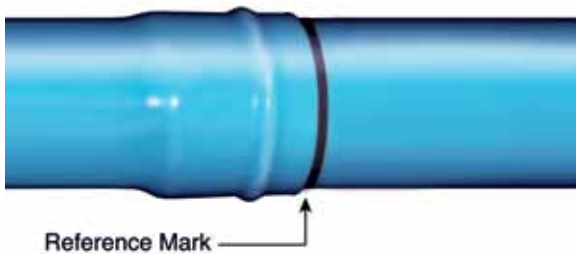

Figure 10
4. Insert the beveled spigot end into the bell so that it is in contact with the gasket. Hold the pipe lengths being joined close to the ground (as shown below) and keep the lengths in proper alignment. Brace the bell, as shown in Figure 9, while the spigot end is inserted under the gasket, so that previously completed joints in the line will not be closed up or over-assembled. Push the spigot end in until the reference mark on the spigot end is flush with the end of the bell, as seen in Figure 10. Stabbing is not recommended and should be avoided to prevent damage to the gasket and joint.